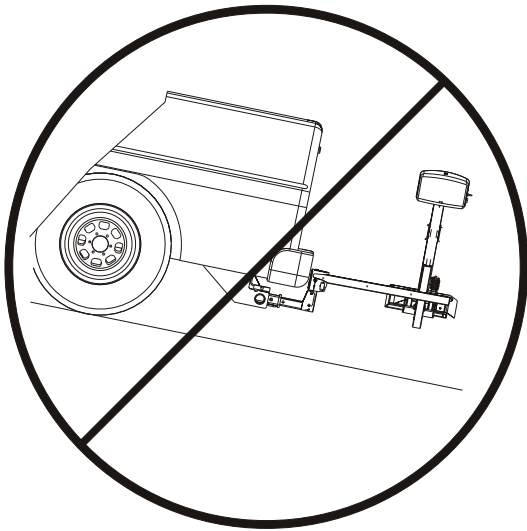

Figure 7-8
**ONLY** open the Swing-Away on level ground. Failure to open the Swing-Away on level ground may result in losing control of the lift, resulting in personal injury or damage to property. See Figure 7-8.